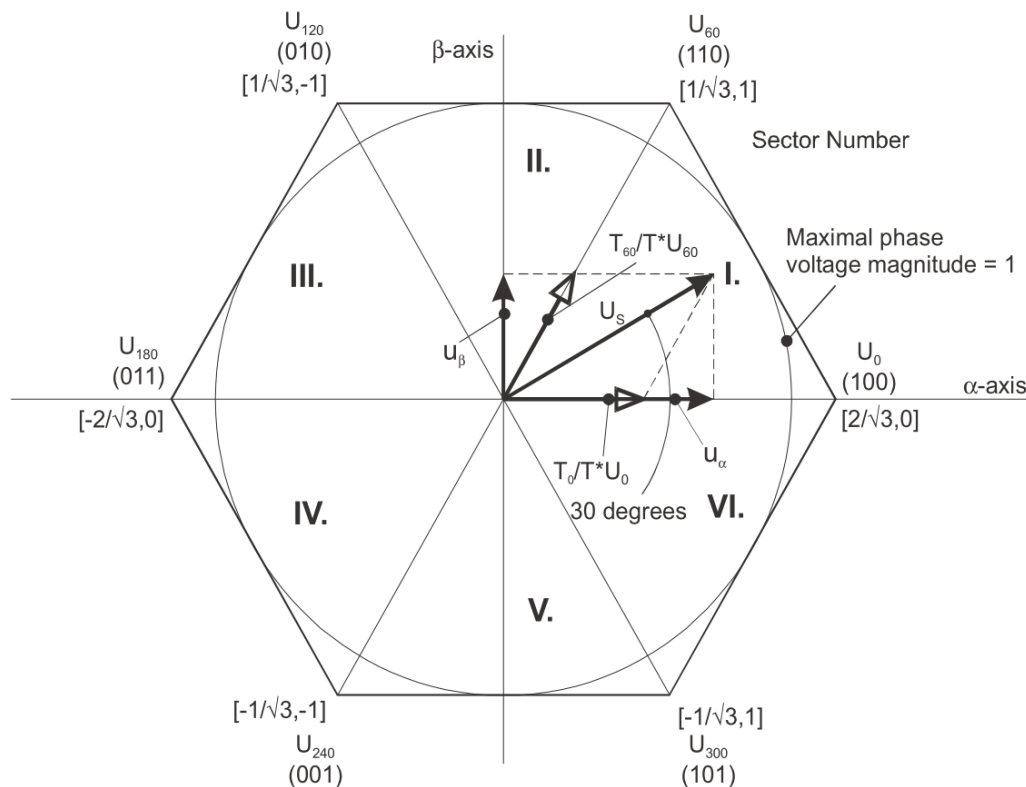
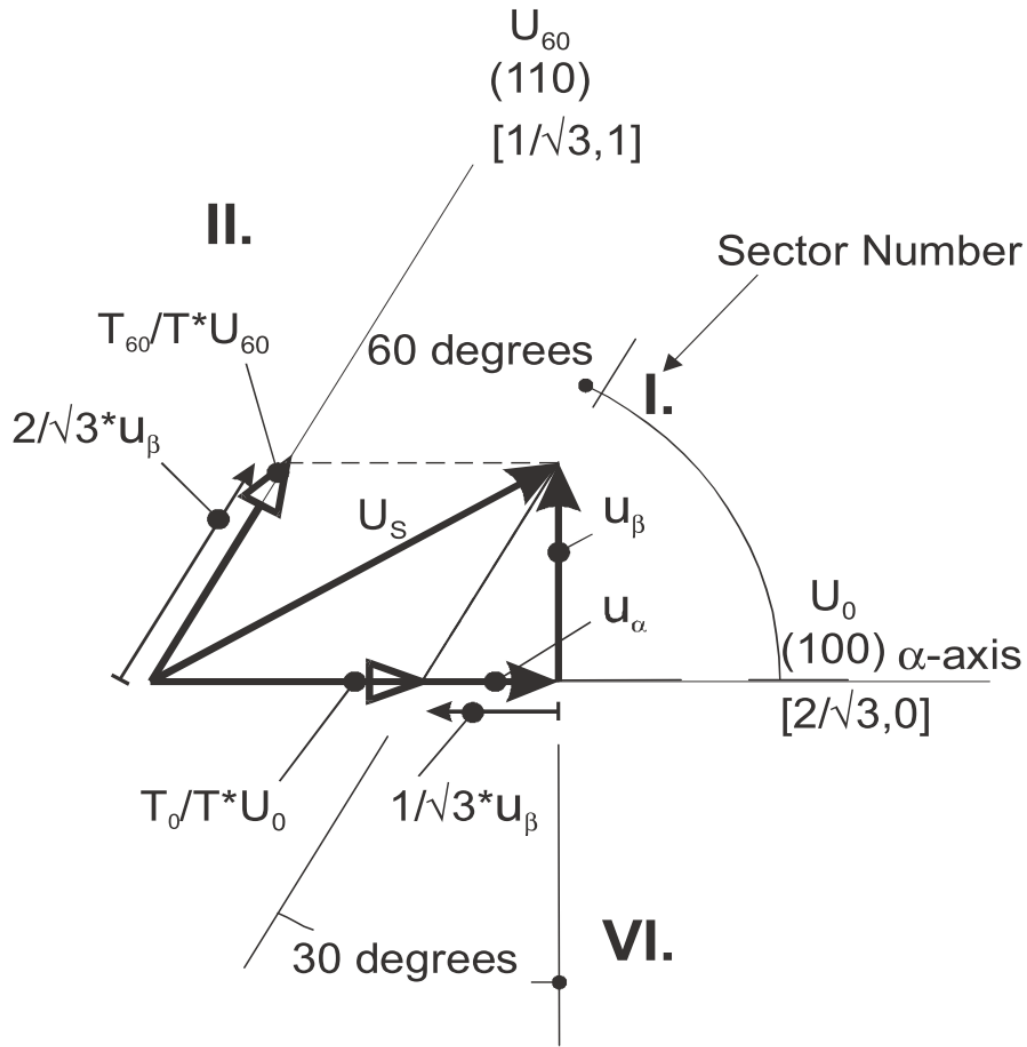
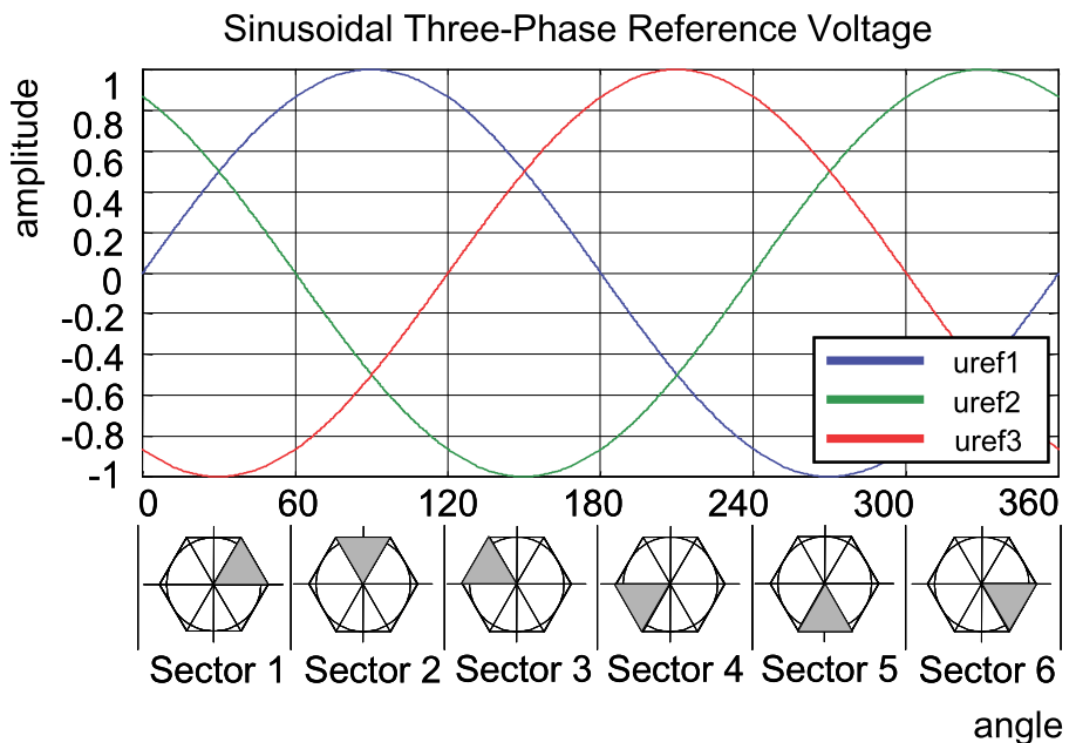

Figure 2-7. Projection of reference voltage vector in the respective sector
Figure 2-8. Detail of the voltage vector projection in the respective sector
Figure 2-12. Reference voltages U_{ref1} , U_{ref2} , and U_{ref3}
Referring to this principle, the objective of the standard space vector modulation is an approximation of the reference stator voltage vector U_s , with an appropriate combination of the switching patterns, composed of basic space vectors. The graphical explanation of this objective is shown in Figure 2-7 and Figure 2-8.
The modified Inverse Clark transformation projects the quadrature- u_{β} component into u_{ref1} , as shown in Figure 2-11 and Figure 2-12, whereas voltages generated by the conventional Inverse Clark transformation project the direct- u_{α} component into u_{ref1} .
In the worst case, at least three simple comparisons are required to precisely identify the sector of the stator reference voltage vector. For example, if the stator reference voltage vector is located as shown in Figure 2-7, the stator-reference voltage vector is phase-advanced by 30° from the direct α -axis, which results in the positive quantities of u_{ref1} and u_{ref2} , and the negative quantity of u_{ref3} ; see Figure 2-12. If these quantities are used as the inputs for the sector identification tree, the product of those comparisons will be sector I. The same approach identifies sector II, if the stator-reference voltage vector is